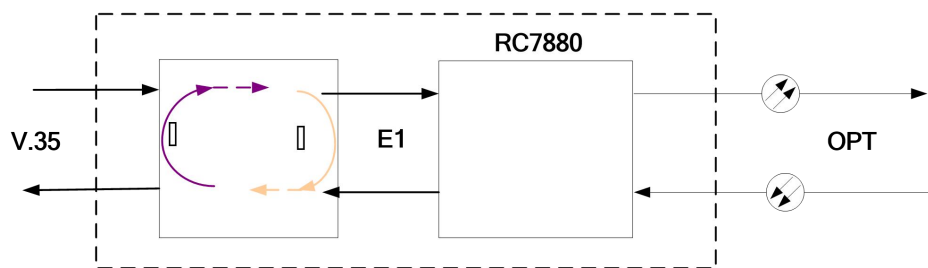

Figure 5-11-3 V.35 loop
V.35 loop includes V.35 device loop and line loop, as Figure 5-11-3 shows:
- ⑤: V.35 loop to line side
- ⑥: V.35 loop to device side